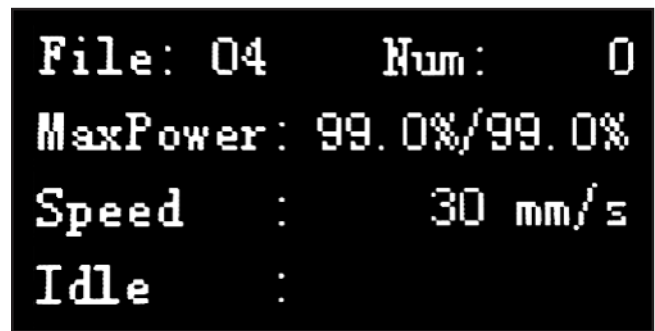

Figure 54. Status screen job attributes.
22. Press Esc until status screen displays currently queued image file in upper left corner (e.g. "File: 04"), as shown in **Figure 54**.